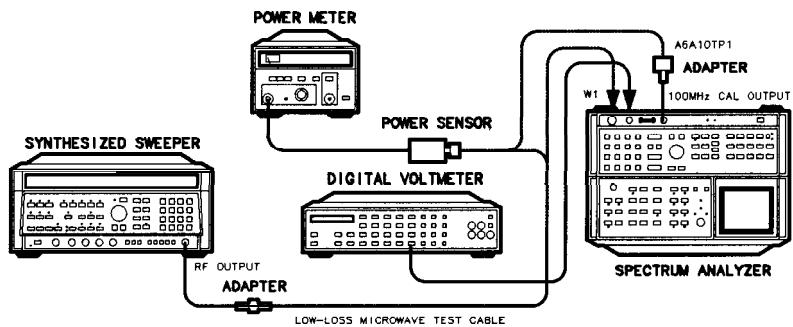

Figure 3-89.
1. Set the spectrum analyzer LINE switch to STANDBY. Turn the spectrum analyzer over to position the RF Section on top, as shown in Figure 3-89 and remove the RF Section bottom cover.